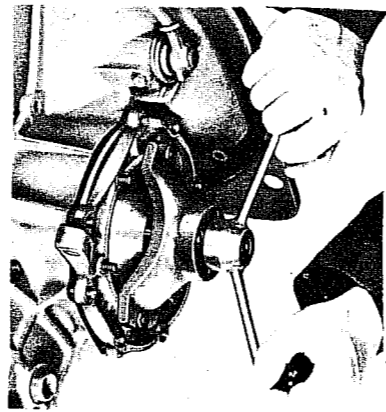

Fig. E.8. Pressing out the differential assembly with an extractor
2. Remove the circlip in the flange (Fig. E 8) and then lever the flange off.